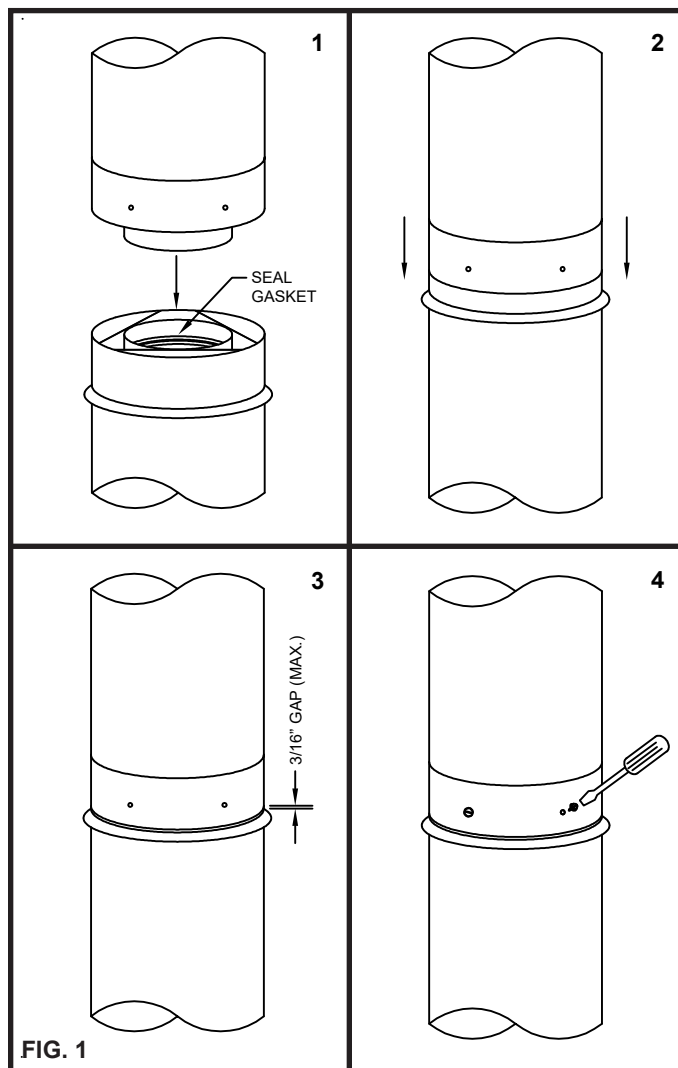

FIG. 1
1. Start off with the appropriate appliance adapter. (SBA or SBAI). Continue to run L-Vent vertically through the floors and ceiling utilizing lengths of pipe. Connect vent lengths per joint assembly fig 1 and fig 2. Maintain 3" clearance to combustible construction and do not enclose the vent. A plate support must be used every 30 feet and wall band may be used to maintain clearance to combustibles. The framing requirements through floors and ceilings needs to be the vent O.D. plus 3" in both length and width of the square opening.